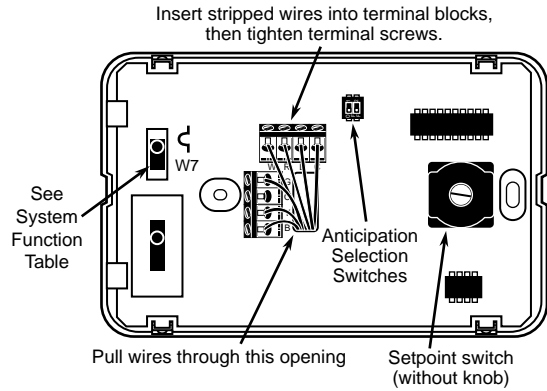

Figure 3. Thermostat base with typical wiring
2. Using needle-nose pliers, insert wire into correct terminal block opening (see figs. 3 and 4).
* In EMERGENCY HEAT mode, fan may be disabled if required by cutting jumper W7 (see Fig 3)
3. Locate the anticipation adjustment switches (see fig. 3).